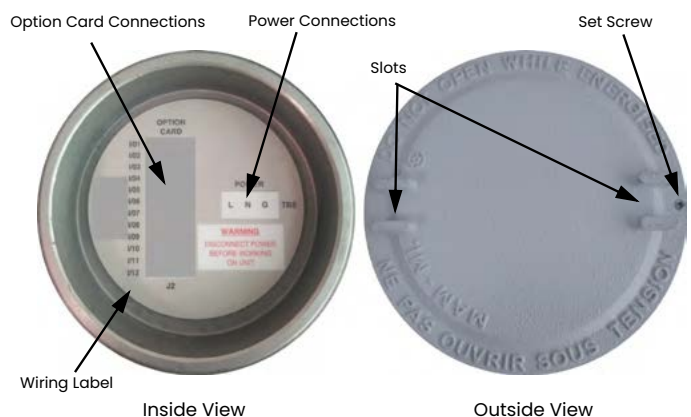
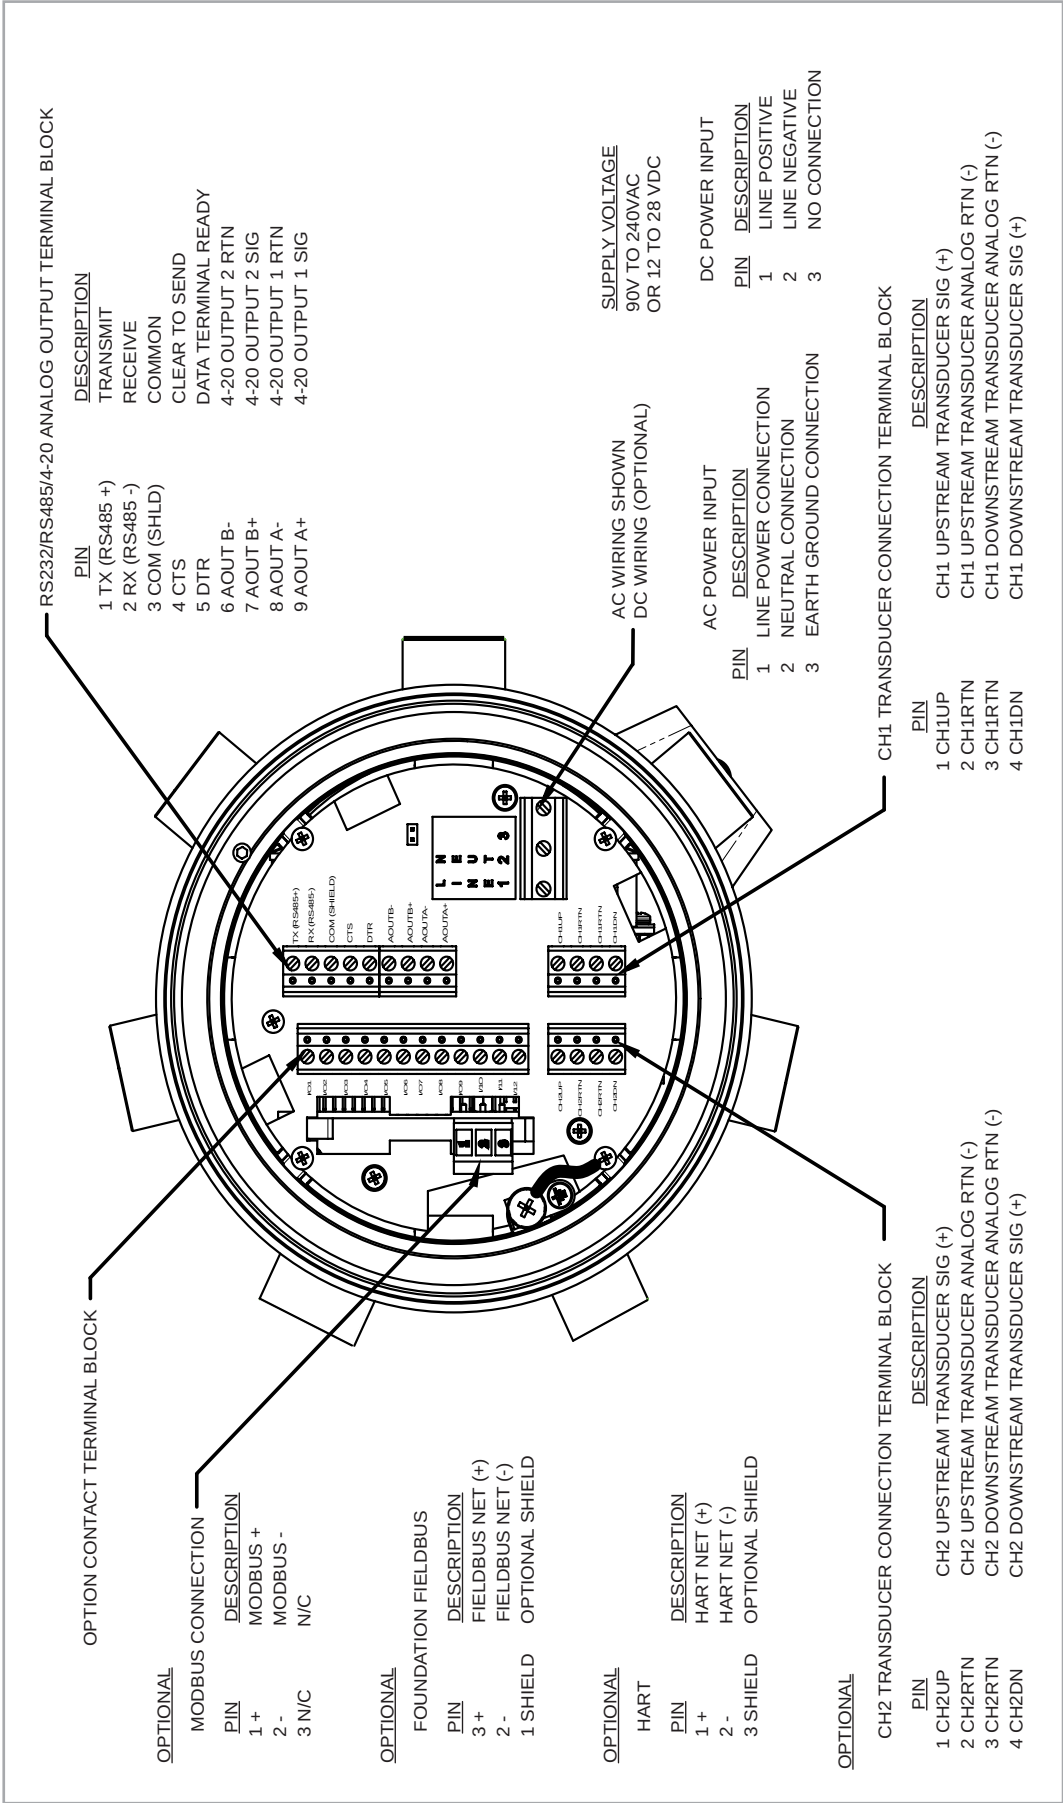

Figure 9: Rear cover with connection labels
Figure 13: Transmitter electronics - wiring diagram (ref. dwg. #702-1846)
To prepare the *PanaFlow ZIG/Z2G Process Gas Flowmeter* for wiring, refer to *Figure 9* below, and complete the following steps:
Refer to *Figure 13 on page 14* to locate the correct terminal block, and connect the line power as follows:
3. Refer to Figure 13 on page 14 to locate the correct terminal block, and wire the analog outputs as shown. Secure the cable clamp.
Refer to Figure 13 on page 14 to locate the correct terminal block, and wire the RS485 serial port as follows:
- Locate the 12-pin terminal block in Figure 13 on page 14 and wire the option card as indicated on the label inside the rear cover (see Figure 9 on page 7). Secure the cable clamp.
Before making any connections, complete the steps in "Making the Electrical Connections" on page 10. Then, wire the analog inputs as shown on the label in the rear cover (see Figure 9 on page 7).
The *PanaFlow Z1G/Z2G Process Gas Flowmeter* RTD inputs option card provides two or four direct RTD inputs (designated as A, B, C and D). Each RTD input requires three wires, and should be connected as shown on the label in the rear cover (see *Figure 9 on page 7*).
To connect the HART interface, refer to *Figure 13 on page 14* and proceed as follows:
To connect the Foundation Fieldbus interface, refer to *Figure 13 on page 14* and proceed as follows: